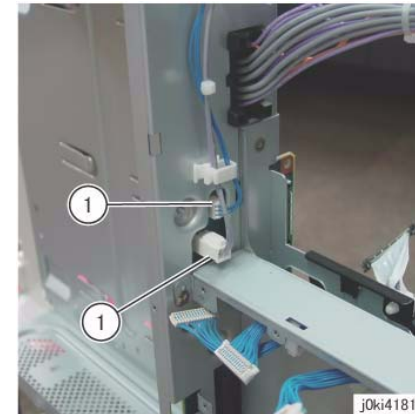

Figure 1 Disconnect the connectors
8. Disconnect the connector of the BP PWB. (Figure 1)